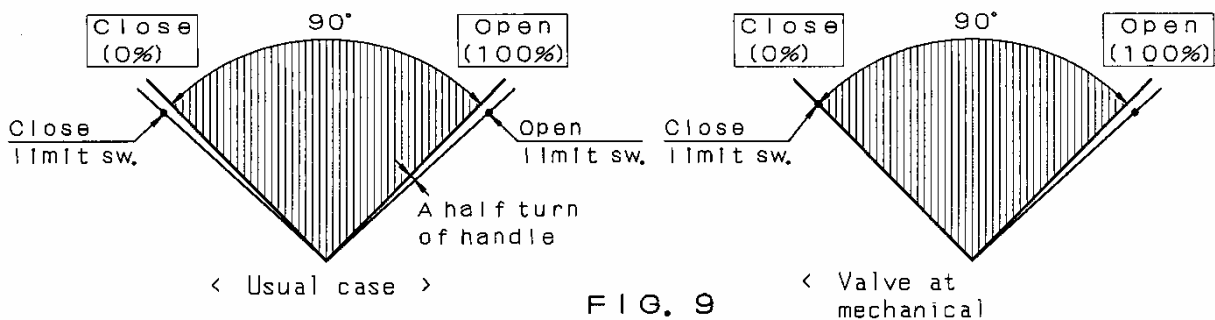

FIG. 9
- B-3. Position the actuator at 0 % (full close), and set the actuator limit switch so as to work at 0 %. (Note that the close limit switch is usually set at a half turn of manual handle beyond the full close signal position.) (See FIG.9)